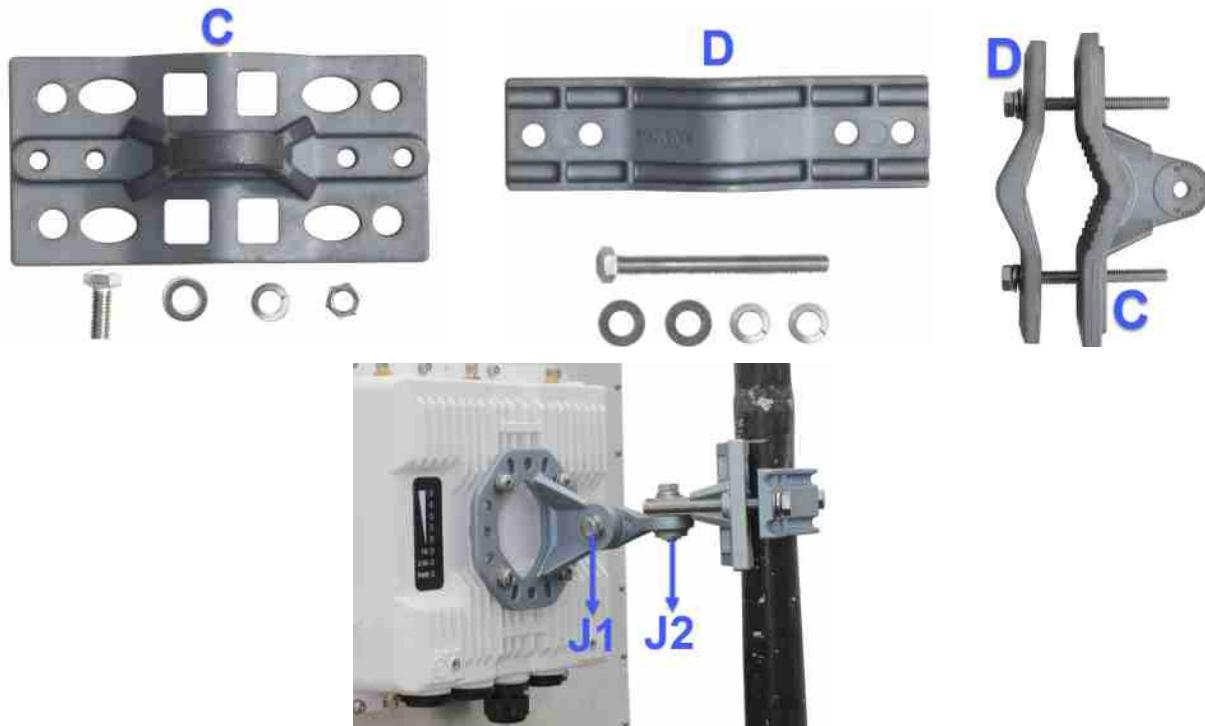

Figure 4-3 Pole Mounting
1. To pole-mount the device, insert the provided bolts through Bracket (D), mate with Bracket (C) around the pole, and secure with supplied washers torquing to 100 Lbf-in (115Kgf-cm). The supplied bolts (Hex. bolt 5/16" x 4"long) are designed for pole diameters from 32 to 89mm (1.25 to 3.5 inches).
2. Fix the fixed Extension Arm (B) to the Mounting Bracket (C) with the provided bolt, nut, and washers. Partially tighten the joints J1 and J2 to allow for alignment of the device.
4. While installing the device, make sure that the device Ethernet Port-1 with cable installation (using cable gland) faces downward only as shown in Figure 4-3 below